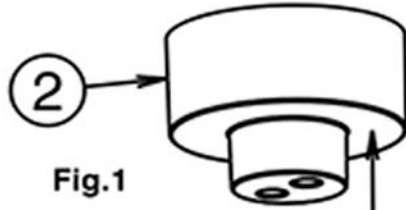

Fig.1
- 1a) Prior to pouring of the concrete slab, install the pipework for hot & cold water supplies in accordance with AS/NZS 3500.1. Slide the installation template (2) over the vertical section of each pipe (1) which will penetrate the slab and position the bottom face (see Fig.1 above) of the template at the approximate finished floor level. Crimp or cap the end of each pipe taking care that heat does not damage the installation template (2). Tag the pipe which will supply hot water for identification later in the installation.
1c) Mark the centre position of the desired location for the Mixer then drill a hole $\text{Ø}60 \pm 2 \text{mm}$ through the flooring base materials. Install the pipework for hot & cold water supplies in accordance with AS/NZS 3500.1. Slide the installation template (2) over the vertical section of each pipe (1) protruding from the floor and position the bottom face (see Fig. 1 above) of the template on the top surface of the floor. Crimp or cap the end of each pipe taking care that heat does not damage the installation template (2). Secure the pipework under the floor using suitable brackets, clips or hangers. Care must be taken that undue strain is not applied to the vertical pipe legs which may influence the pipe centres when the installation template is removed after floor trades are complete.